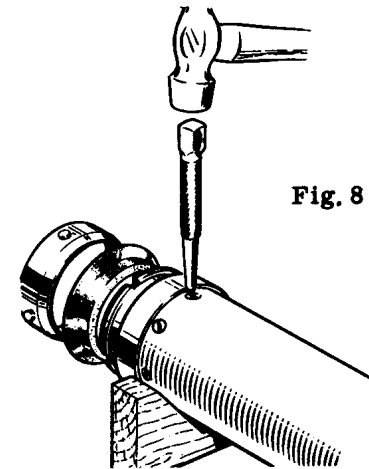

Fig. 8
10. Insert piston into top tube and secure with screws which were removed. Damaged screws should be replaced. Lock the screws in position by punching the tube into the screw slot as shown in Fig. 8. A smear of silicone grease, placed on the piston end which goes into the tube, will greatly assist assembly.